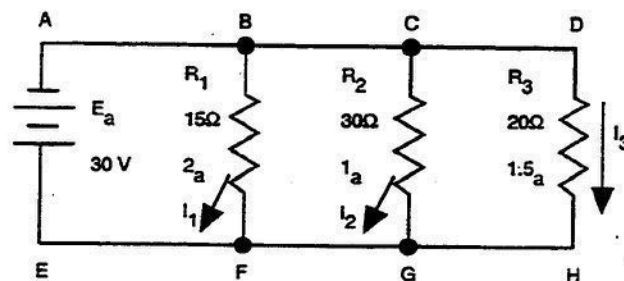

Figure 2-16. Basic parallel DC circuit.
**Parallel DC circuits.** It is often necessary to connect electrical devices so the entire source of voltage is across each device. A circuit in which two or more devices are connected across the same voltage source is a parallel circuit. Refer to the circuit in figure 2-16. Note that points A, B, C, and D are connected together and are one point electrically when the circuit is closed as shown. Similarly, points E, F, G, and H comprise another electrical point. Since the applied voltage appears between points A and E, the same voltage appears between points B and F, between C and G, and between points D and H. We can conclude that when resistors are connected in parallel across a voltage source, each resistor has the same voltage applied to it, although the currents may differ depending on the values of resistance.